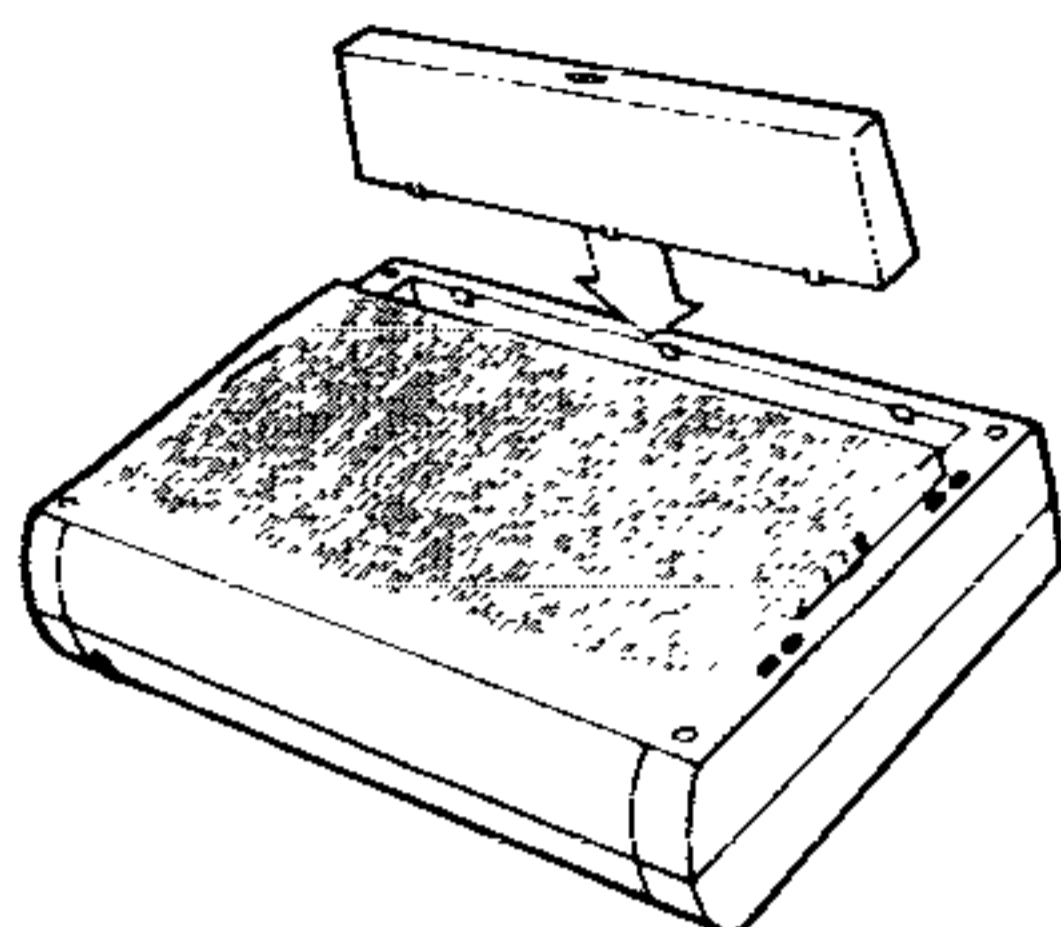

Figure 4
The 921S/926X shredder is equipped with a plastic paper holder which can be used to store paper or envelopes which you may want to reuse again, or to hold paper prior to shredding. To install the paper holder carefully turn the shredder upside down. Insert the paper holder into the shredder so that the (4) four tabs of the holder snap into the (4) four openings of the shredder as shown (Figure 4).